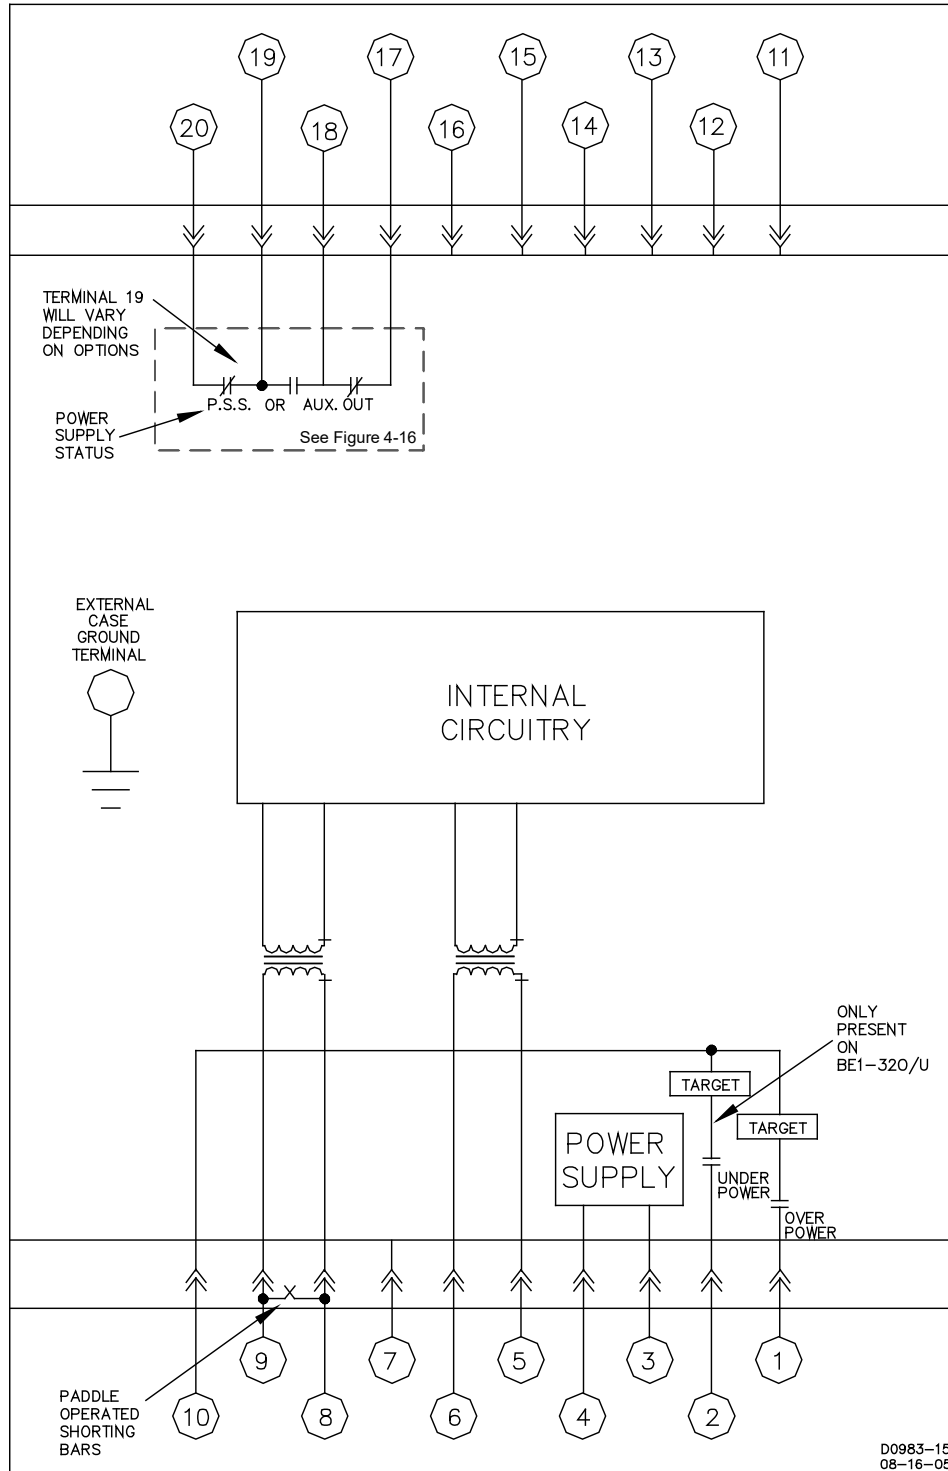

Figure 4-21. Internal Connections, Sensing Type A, B, or V
- Internal connections: Figures 4-21 through 4-24